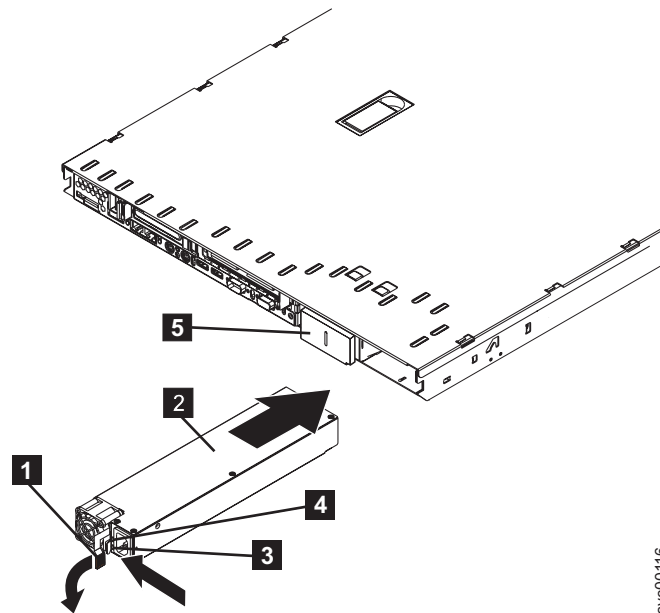

Figure 132. SAN Volume Controller 2145-8F2 power supply handle
- a. Rotate the handle **1** down on the rear of the power supply to the open position, and then slide the power supply forward into the power-supply bay. See Figure 132.